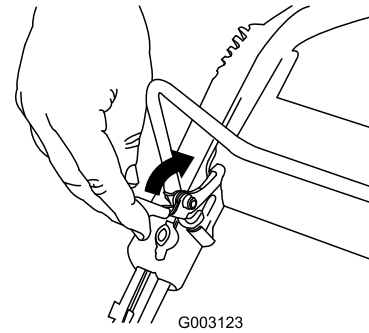

Figure 19
1. Pull the control bar lock back (Figure 19).